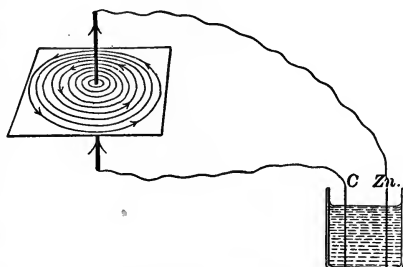

FIG. 100.— A wire through which current flows is surrounded by a field of magnetic force.
d. If a wire is passed through a card and a strong current is sent through the wire, iron filings will, when sprinkled upon the card, arrange themselves in definite directions (Fig. 100). A wire carrying a current is surrounded by a magnetic field of force.